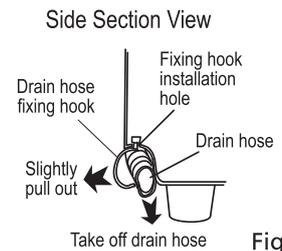

Figure 2
1. Remove the drain hose from the hanging hole on the cabinet. Pull the drain hose fixing hook outwards gently to take out the drain hose from the two fixing hooks. (See Figure 2.)